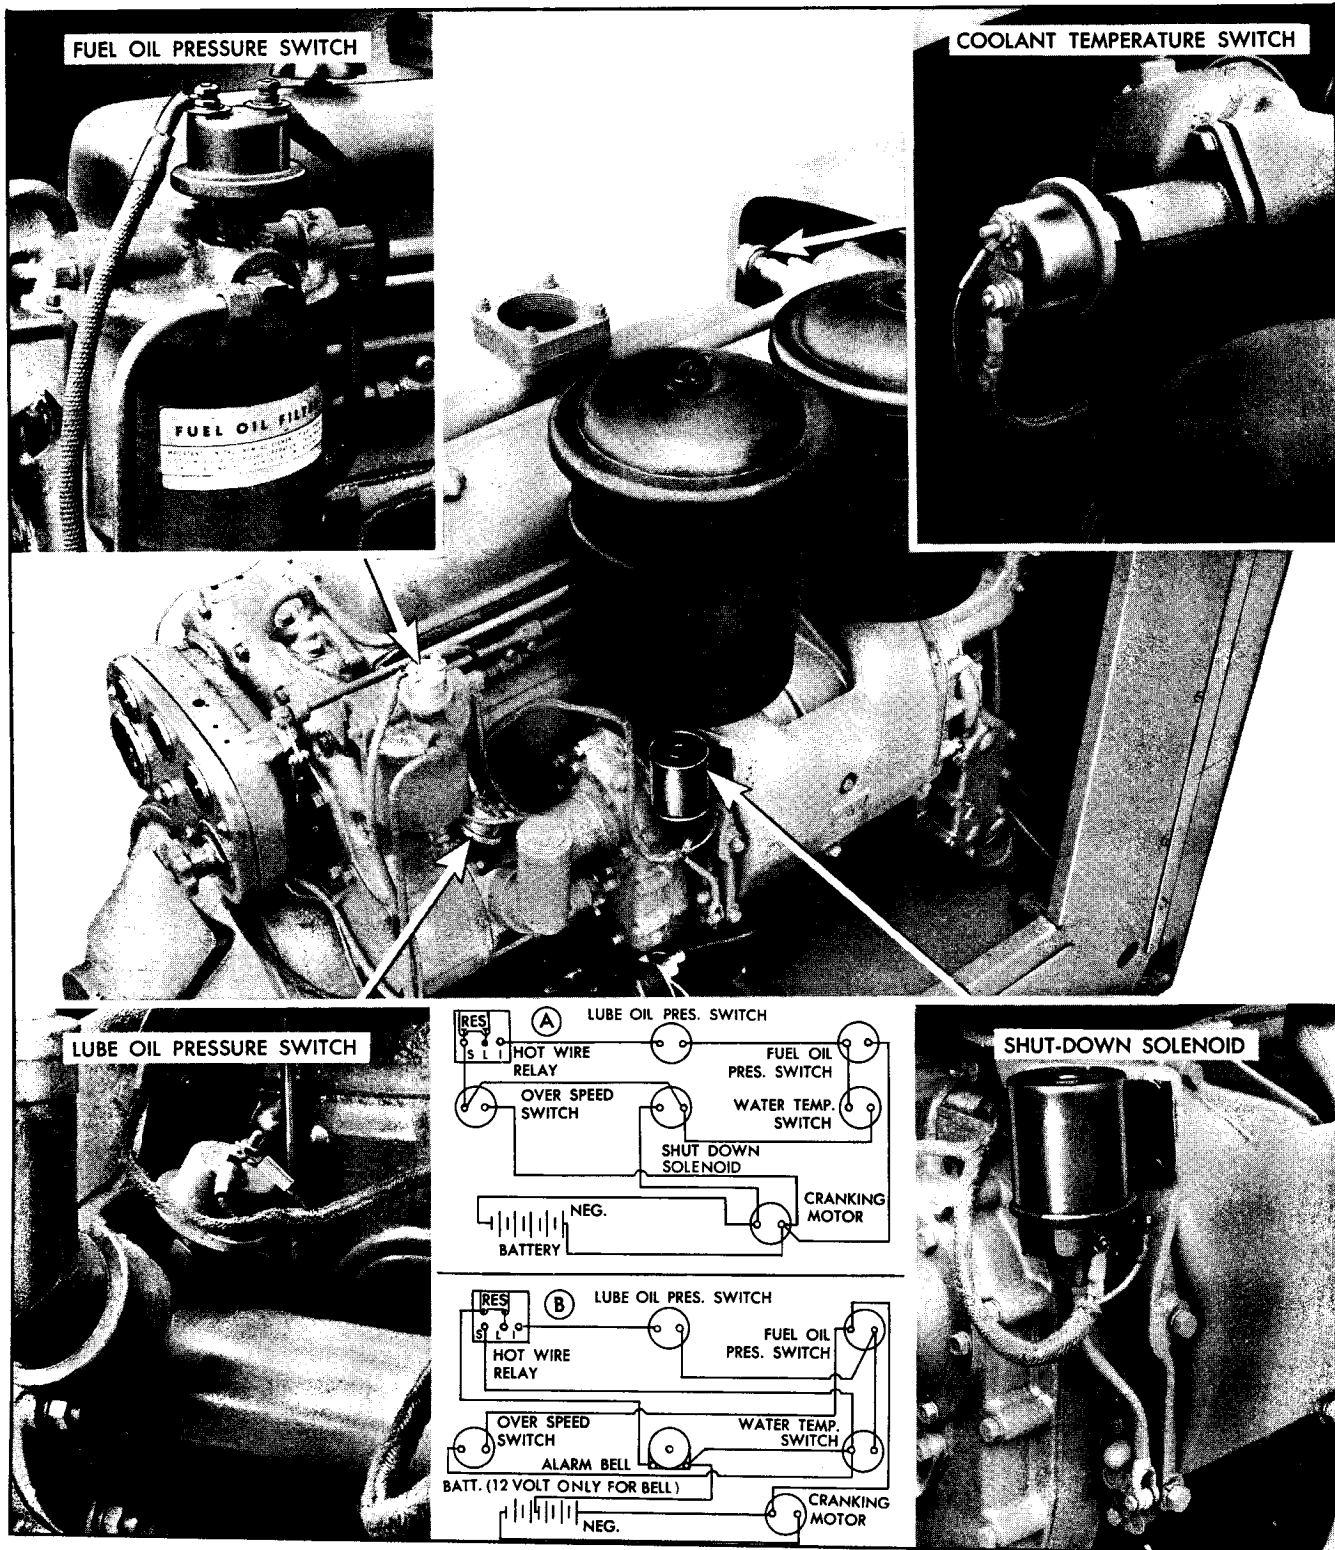

Fig. 9—Typical Installation of Electrically Operated Shut-Down Device.
2. Automatically by either low oil pressure or high coolant temperature (see Fig. 9).
This device consists of a lubricating oil pressure switch, a coolant temperature switch, a fuel oil pressure switch, a solenoid coil, and suitable electrical wiring to complete the circuit through the storage battery. Figure 9 shows typical positions of the various switches. The lubricating oil pressure switch extends into the oil gallery, the coolant temperature switch is mounted on the water manifold, the fuel oil pressure switch connects into the fuel system, and the shutdown solenoid is attached to the air inlet housing.
Operation—The wiring diagrams in Fig. 9 show the automatic shutdown circuit (A), and the automatic shutdown alarm circuit (B). The various parts of the circuits are described in the paragraphs below. Notice that the cranking (starting) motor performs no essential function in the automatic shutdown circuit. Also notice that the voltage used through the alarm bell must be no greater than 12 volts.